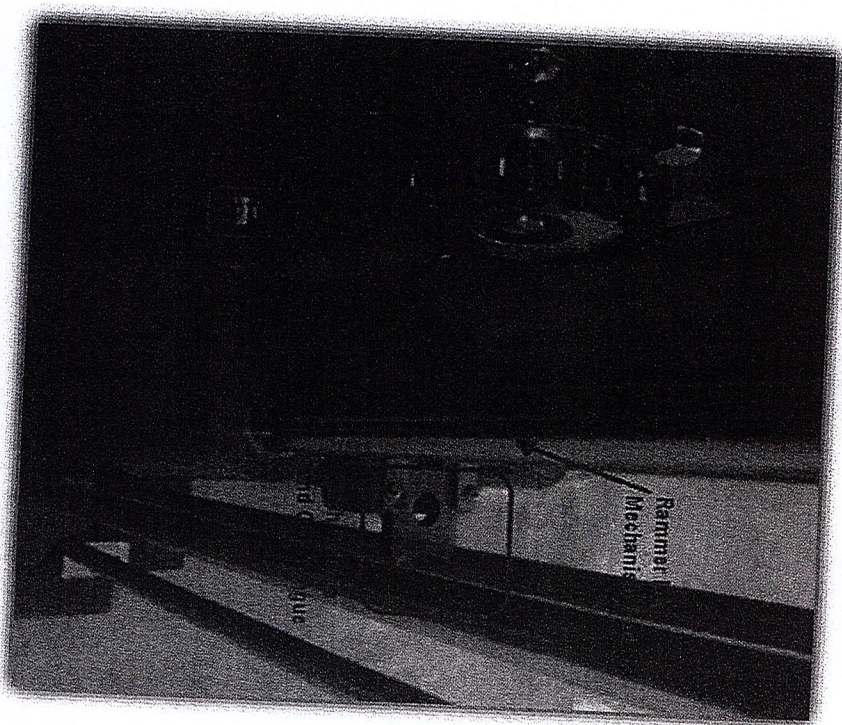

Figure 7: Grip Mechanism
- **Rammer Lifting Mechanism Rod (Figure 7)**
- **Rammer Catch /Release and Position Lock Tongue (Figure 7)**
- **Rammer Guide Carrying Frame (Figure 7)**
- **Chain (Figure 5-8 and Figure 7)**
- **Optic Sensor Activator Plate (Figure 7)**